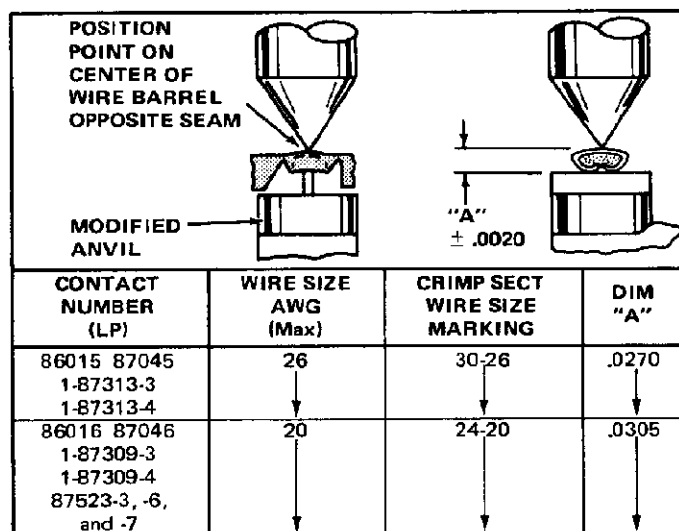

Fig. II-2
This inspection incorporates the use of a micrometer with a modified anvil as shown in Figure II-2. We recommend the modified micrometer (Crimp Height Comparator RS-1019-5L) which can be purchased from:
1. Refer to the chart in Figure II-2, and select a wire (maximum size) and a contact (LP) for each crimp section.
3. Using a crimp height comparator, measure each wire barrel crimp height as shown in Figure II-2. If the crimp height conforms to that shown in the chart the tool is considered dimensionally correct. If not, return the tool to AMP for evaluation and repair (see Paragraph II-3). For additional information concerning the use of the crimp height comparator, refer to AMP Instruction Sheet IS 7424.
1. Select a wire (maximum size) and a contact (LP) for the tool (see Figure II-2).